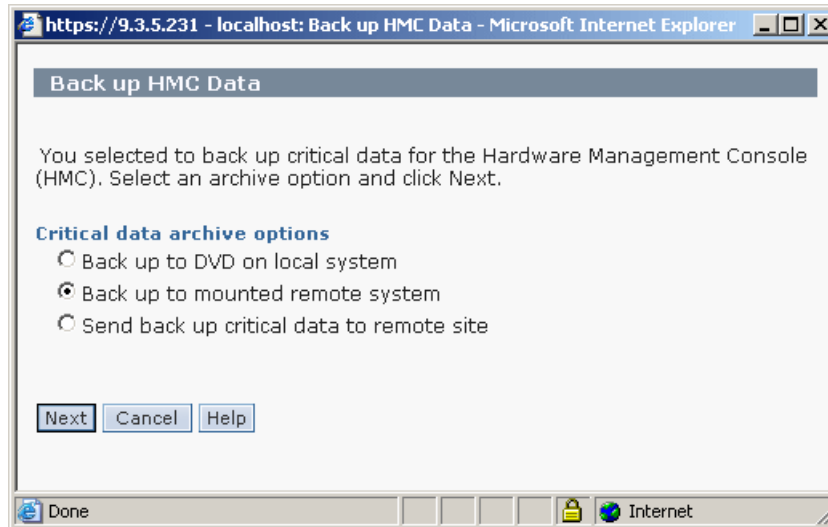

Figure A-8 Back up Critical Console Data
9. Select **Back up to mounted remote system** in the Back up HMC Data window (Figure A-8) and then click **Next** to continue with next window.